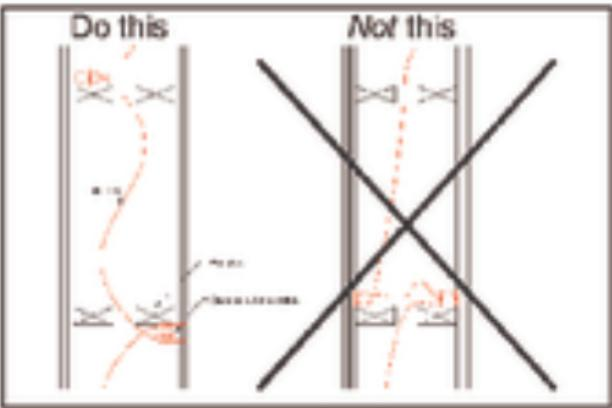

FIGURE 3.6—PROPER AND IMPROPER WIRE ROUTING (SHEET-BLOK™ AND SHEETFOAM™ TRADE TOP-NAME OF AUTHOR, INC. ISOLATION-F HANGERS NOT SHOWN FOR CLARITY)
- Never mount electrical boxes or connector panels back to back; always stagger them as shown in the Figure 3.6. Seal the holes your wires go through, or (preferably) run wire through conduit, stuffing foam or insulation in the ends to help seal it. Isolating the conduit from the structure with SheetBlok or hanging it with resilient hangers can really offer some improved isolation. Remember: Sound control is a game of inches.TM